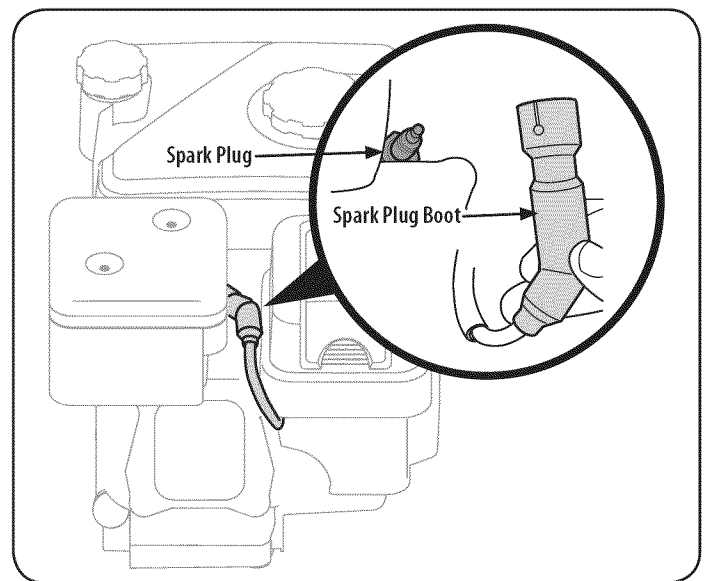

Figure 24
1. Carefully disconnect the spark plug wire and keep it away from the spark plug. Refer to Figure 24 for spark plug location.